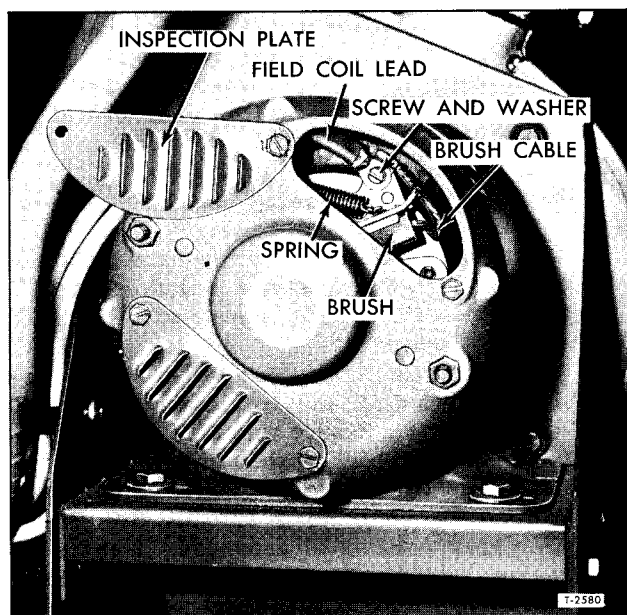

Figure 18—Removal and Installation of Motor Brushes
2. To replace brushes, refer to figure 18.